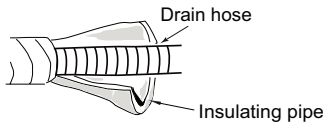

Fig. 10
- (1) Add insulating pipe in the indoor drain hose in order to prevent condensation.
- (2) The plastic expansion particles are not provided. (As show in Fig.10)